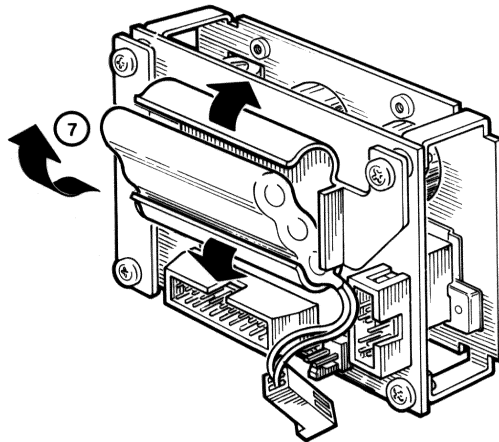

Figure 6-31 Battery Backup Unit Removal
7. Carefully spread the plastic BBU holder and pop the battery backup unit out. (Figure 6-31)